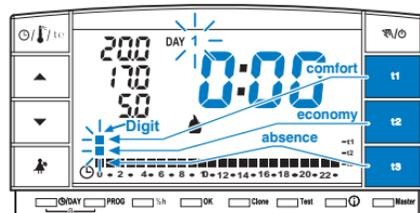

fig. 9
The two digits t1 and t2 will appear blinking on the display, referring to the hour 0:00 and number 1 corresponding to the day **Monday** (fig. 9).
- Temperature and hour selection (blinking digit) is set by pressing the corresponding key (t1, t2 and t3) (fig. 9).